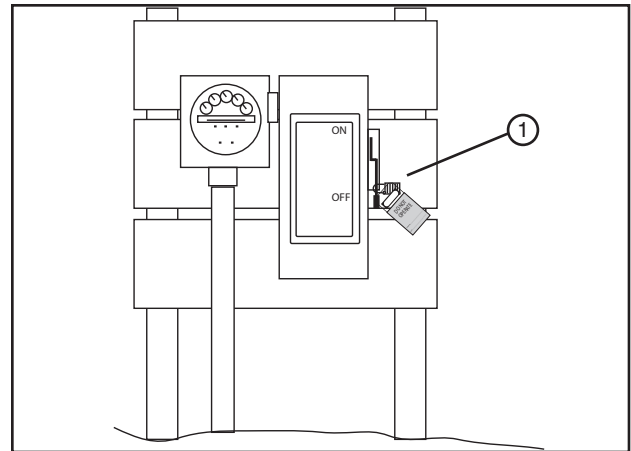

Figure 11-1 1. Service Disconnect
2. SHUT OFF and LOCK the public power service disconnect to the irrigation machine. FILL OUT the blue (OSHA safety color code) tag and attach to the disconnect after locking. See figure 11-1.